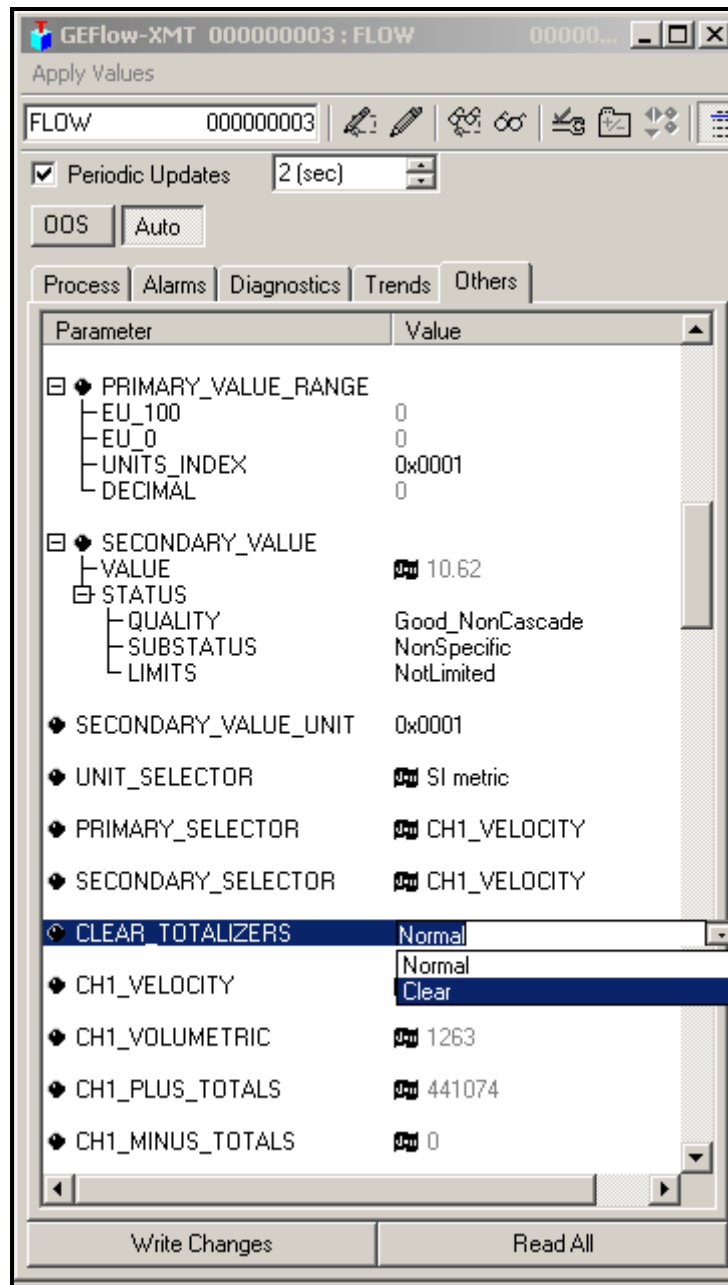

Figure 43: Clear Totalizers Drop Down List
3. Select **Clear** from the drop down list box (see Figure 43 below).